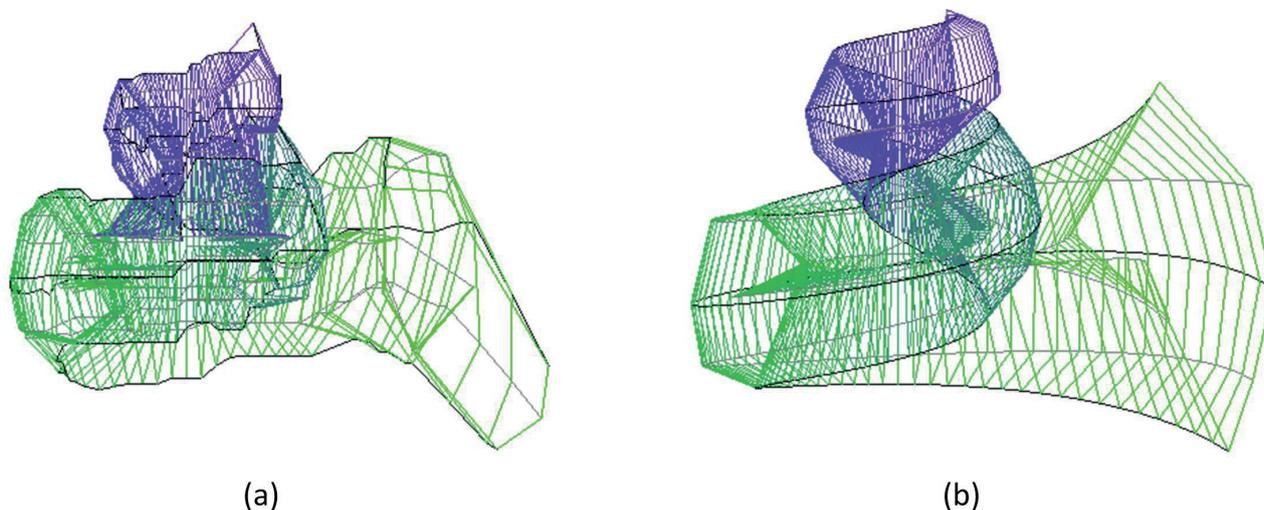

Figure 2
Gas exchange in the lungs is regulated by the alveoli, which can be challenging to reproduce in vitro. Microfluidics can establish extra-corporeal lung models and lung pathologies through accurate fluid flow, and sustained gaseous exchange. Current studies have focused on the regulation of mechanical airway pressure, the blood-blood barrier (BBB), [63] and the effects of shear force on pathophysiological processes. Huh, et al. produced a lung-on-a-chip model (Fig. 2) [64] using soft lithography to divide the chip into regions separated by 10  $\mu\text{m}$  PDMS membranes with an extracellular matrix (ECM). The upper PDMS regions had alveolar epithelial cells, while the lower areas contained human pulmonary microvascular endothelial cells, thus mimicking the alveolar-capillary barrier. The structures
**Fig. 2** Lung-on-a-chip system. **a** An alveolar–capillary barrier was produced on porous flexible PDMS membranes coated with ECM using spaced PDMS microchannels. The device reproduced respiratory motion through a vacuum leading to mechanical stretching and the formation of an alveolar–capillary barrier; **b** following inhalation, the diaphragm contracts, reducing pleura pressure. The alveolar–capillary interface became stretched due to alveoli tension; **c** device development: a porous membrane between the upper and lower channels bound irreversibly following plasma exposure; **d** PDMS moved through the side of the channels and then was removed following vacuum pressure. **e** Actual images of the device (reprinted with permission from [64] Copyright © 2010, American Association for the Advancement of Science)